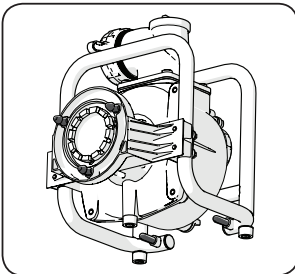

Fig 9
- Hold the accessory by its external frame and offer it up to the engine. Visually align the 3 locating pins and 2 rear stabilising pins. (Fig. 9) Enlist competent help if necessary. The generator in particular is heavy and help with lifting may be required.